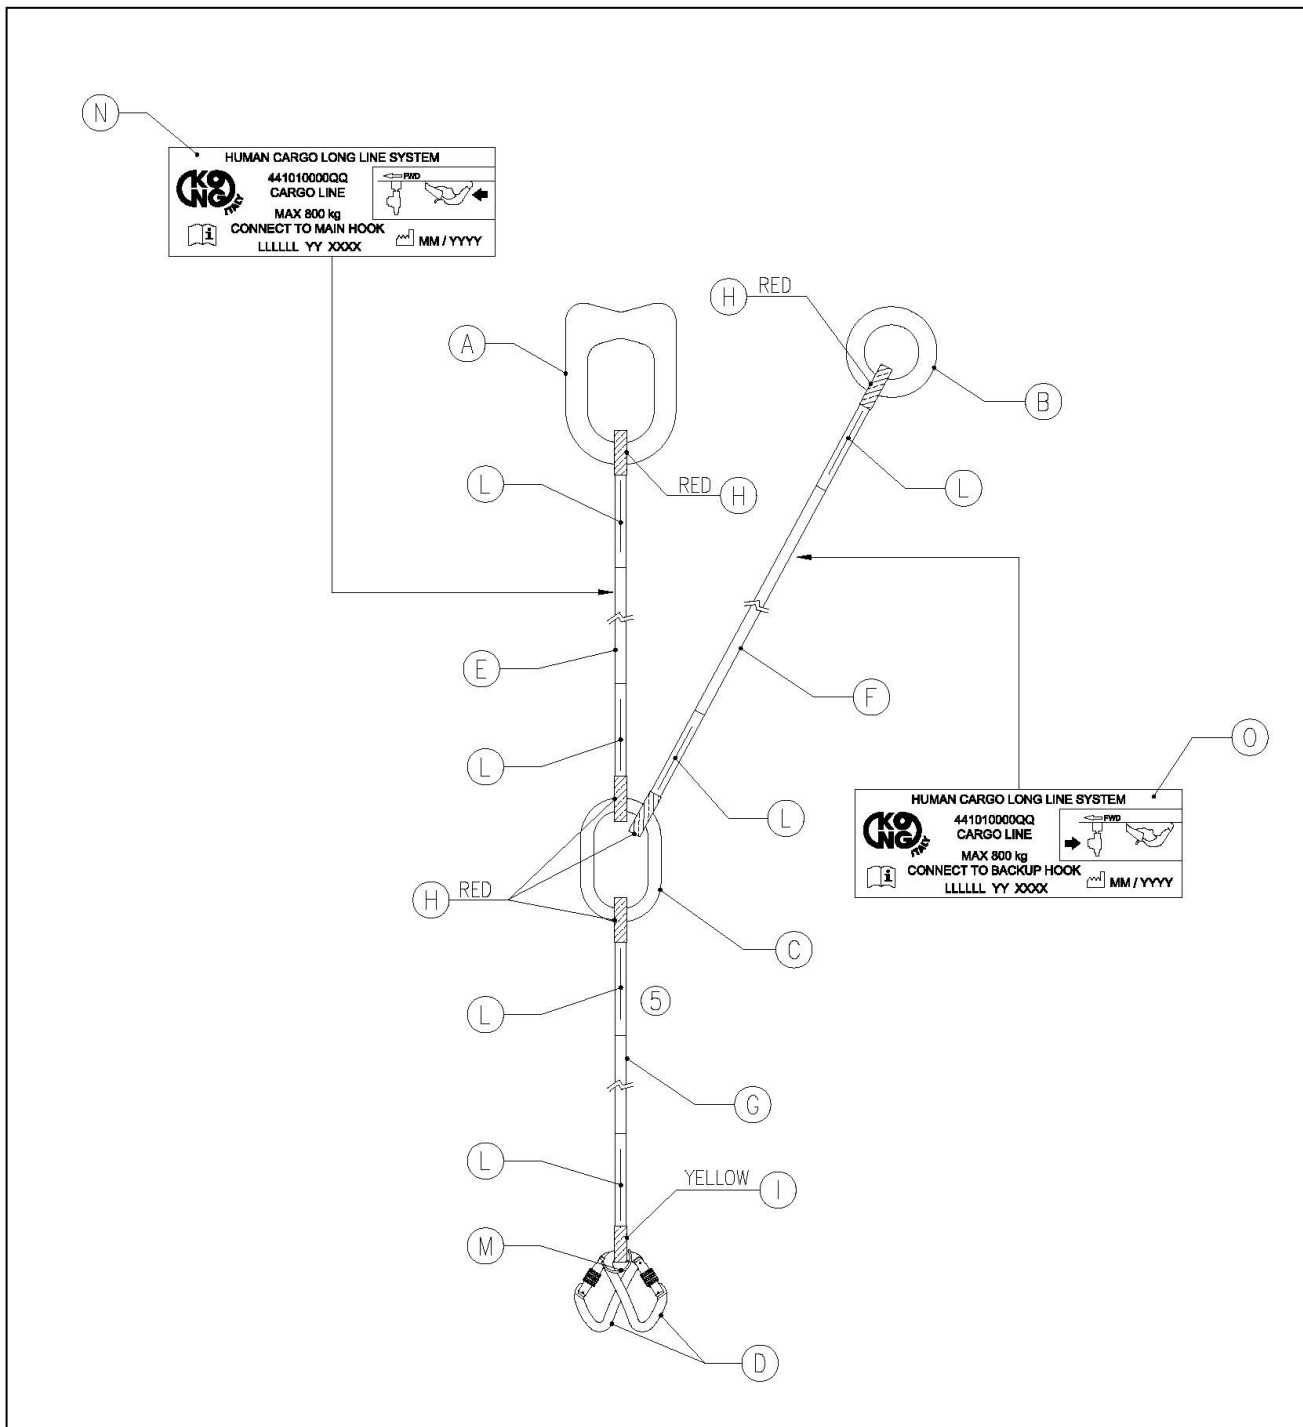

Fig.2 – Cargo Line
The Cargo Line (fig.2) consists of three ropes (E, F and G) with loop terminals, connected with a loop to the junction ring (C) and with the other respectively:
- ring (A) intended for connection to the main hook,
- ring (B) intended for connection to the backup hook,
- with two connectors (D) in carbon steel, with screw sleeve and positioned with the opposing levers, to which the Extension line can be connected or, alternatively, the End Termination.
Terminology of parts (Fig. 2): (A) Connecting ring to the main hook, (B) Connecting ring to the backup hook, (C) Jointing ring, (D) Heavy Duty connectors with screw sleeve, (E, F, G) Stitched rope, (H) Rope protection (red color), (I) Rope protection (yellow color), (L) Stitching, (M) Fast, (N) "Main hook ring" label, (O) "Backup hook ring" label.
How to connect the Cargo Line (fig.2) to the hooks of the Dual Hook System of the helicopter: